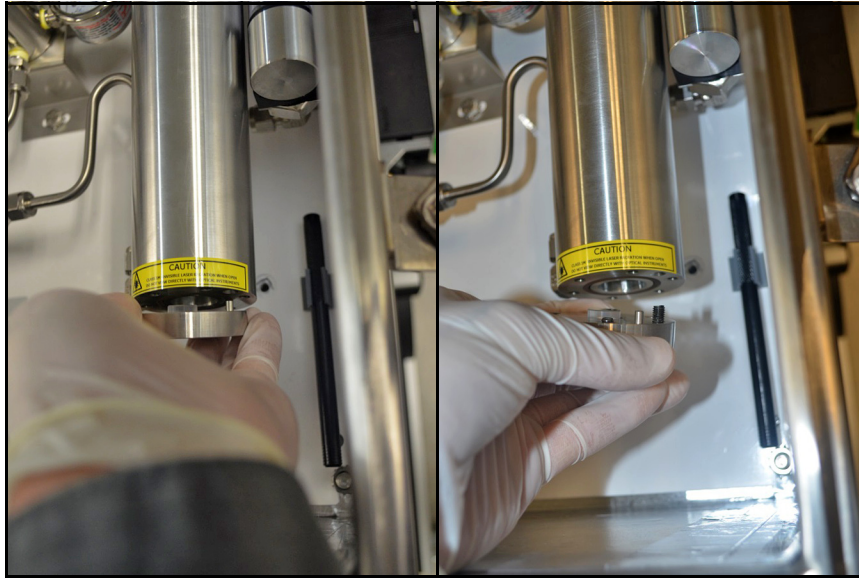

Figure 91: Reinstalling the Mirror End Cap Assembly
11. As you line up the mirror with the measurement cell, note the “key” for properly connecting the two pieces. The mirror will align for mounting in only one position. Rotate the mirror assembly to line up the alignment pin with the alignment pin slot (see *Figure 91* below).